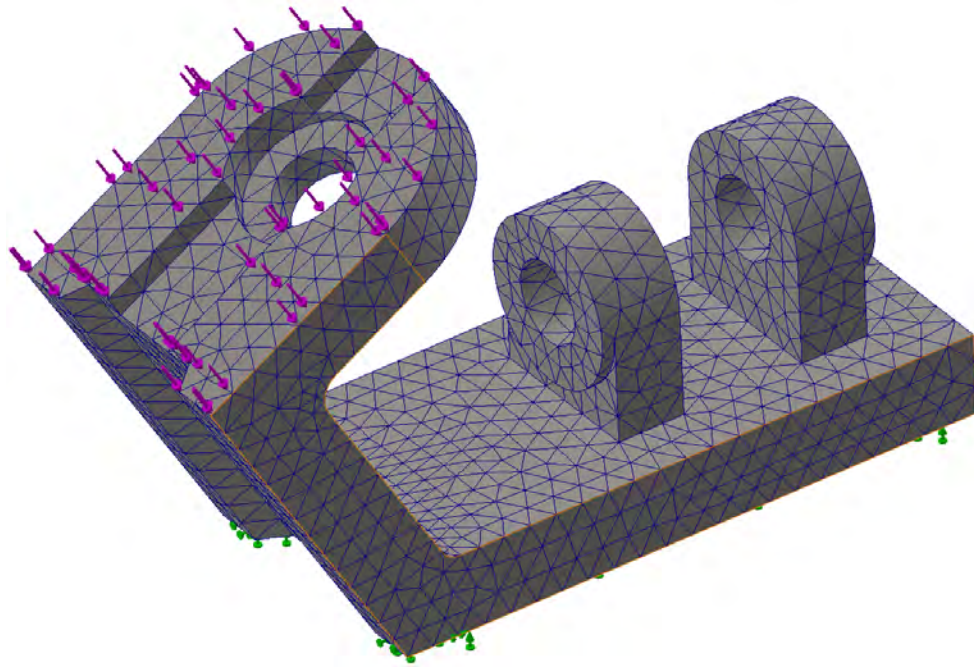

Figure 14 – Model of a part with a constructed finite element mesh
4. Click the green checkmark (OK). The program will automatically build the mesh. The build time depends on the complexity of the model and the selected mesh density.
5. After construction, the mesh will be displayed on the model (see Fig. 14). Visually assess the quality of the mesh. It should be sufficiently fine in places of stress concentration (holes, fillets, places of force application), but can be coarser in less loaded areas.